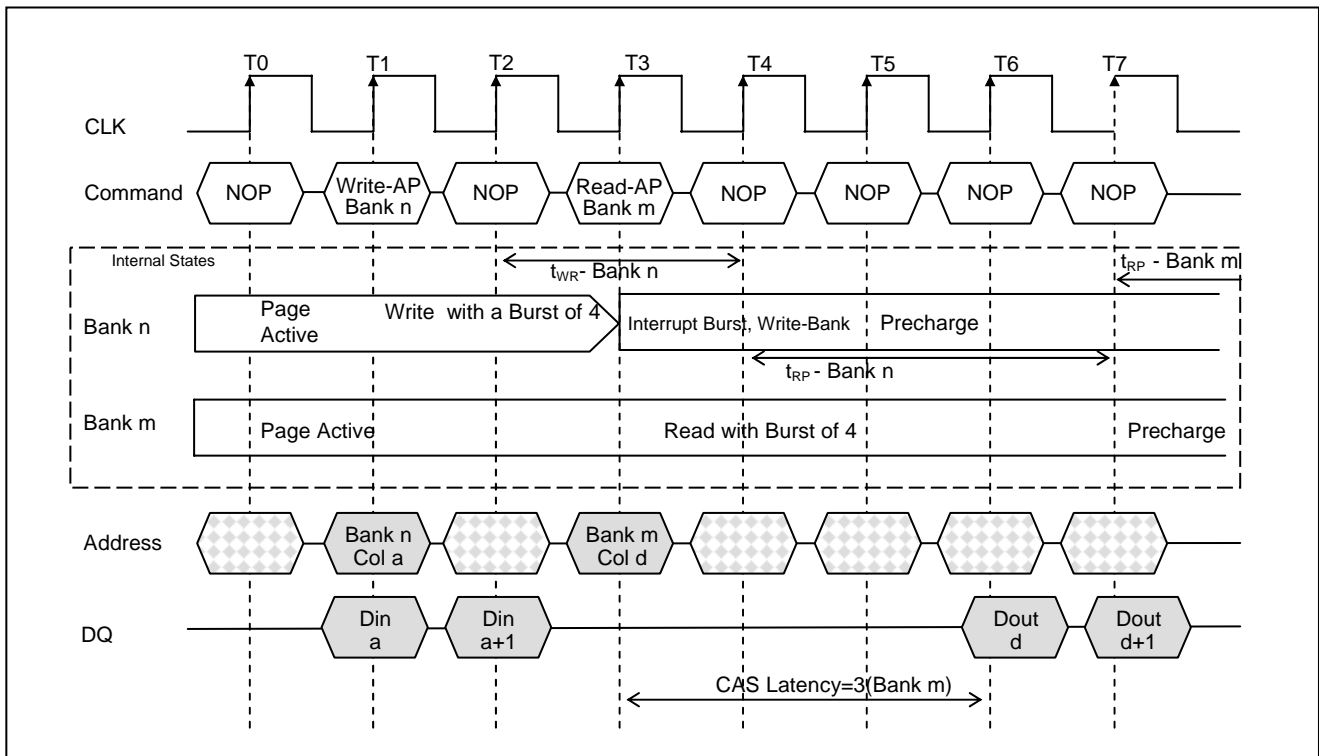

Figure 27. Write with Auto Precharge Interrupted by a Read with Auto Precharge (CAS Latency =3)
3. Interrupted by a Read(with or without auto precharge): A Read to bank m will interrupt a Write on bank n when registered , with the data-out appearing CAS latency later. The Precharge to bank n will begin after t_{WR} is met, where t_{WR} begins when the Read to bank m is registered. The last valid Write to bank n will be data-in registered one clock prior to the Read to bank m.(Figure 27.)